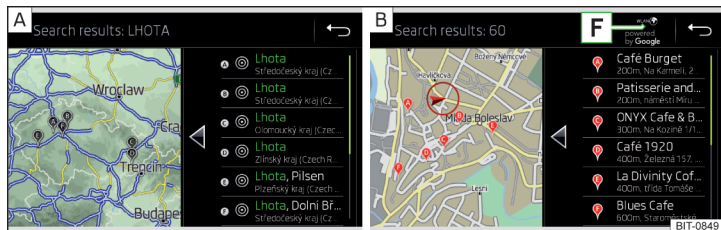

Fig. 185 List of destinations found: in the navigation data/online
Function surfaces » Fig. 184 and » Fig. 185
- Destinations found in the navigation data » Fig. 185 - **A**.
- Destinations found online » Fig. 185 - **B**.